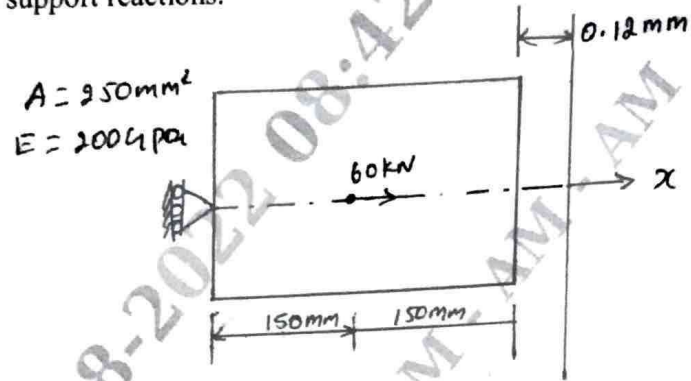

Fig. Q10 (b)
b. Consider the bar shown in Fig.Q10 (b). An axial load $P = 60 \times 10^3 \text{ N}$ is applied at its mid point using penalty method of handling boundary condition determine the nodal displacement and support reactions. (12 Marks)